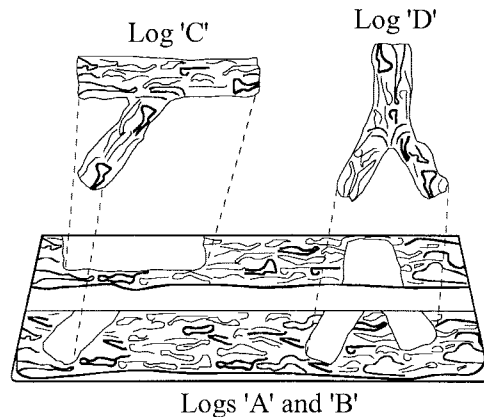
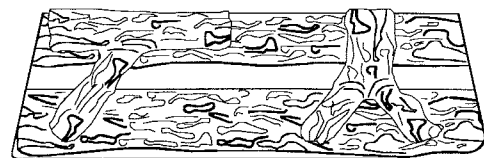

Figure 22a. Log Installation.
Figure 22b. Completed log installation.
The W34-DV is supplied with four (4) soft fibre logs. Logs "A" and "B" are permanently attached to a fibre base, which is pre-installed by the factory. To install the two small logs ("C" and "D"), simply place them onto their mating positions as shown in figure 22a below. When log set is installed it should look like figure 22b.